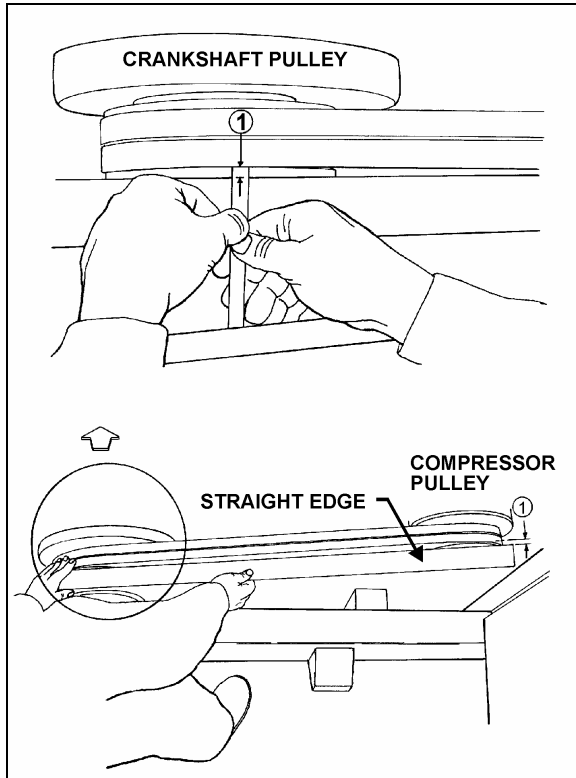
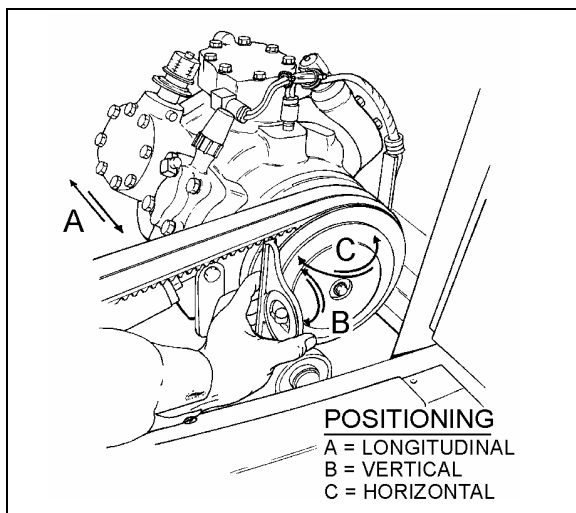

FIGURE 24: COMPRESSOR ALIGNMENT 22040
FIGURE 25: COMPRESSOR ALIGNMENT 22072
After belt replacement or during normal maintenance, belt play between idlers and belt must be checked to ensure proper operation. Refer to Figure 24 for proper plays.
1. Rest an extremity of a straight edge of approximately 46 inches (117 cm) against the upper part of the outer face of crankshaft pulley, positioning the other end close to the compressor clutch pulley (Figure 24 & Figure 25).
2. Check the distance between each extremity of straight edge (1, Figure 24) and the first drive belt. If they are different, loosen the compressor support bolts and with a hammer, knock support to slide it in order to obtain the same distance; then tighten bolts.
2. Check the distance between each extremity of straight edge (1, Figure 24) and drive belt. If they are different, loosen the pillow block compressor bolts and with a hammer, knock compressor pillow block to slide it, in order to obtain the same distance; then tighten bolts.
Rest a short "angle and level indicator" on the outer side face of the crankshaft pulley, adjust the level indicator inclination at 0° and check if the compressor pulley is at same angle (Figure 24 & Figure 25). If it is not the same, shim under the appropriate pillow block in order to obtain the correct angle.